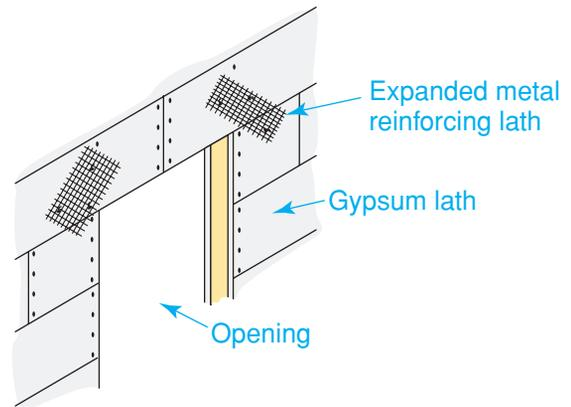

Figure 32-22 Reinforcing Lath
- *Reinforcing lath* is a flat length of expanded lath 4" or 6" wide (see **Figure 32-22**). It is used to reinforce areas that might crack, such as corners around doors and windows.